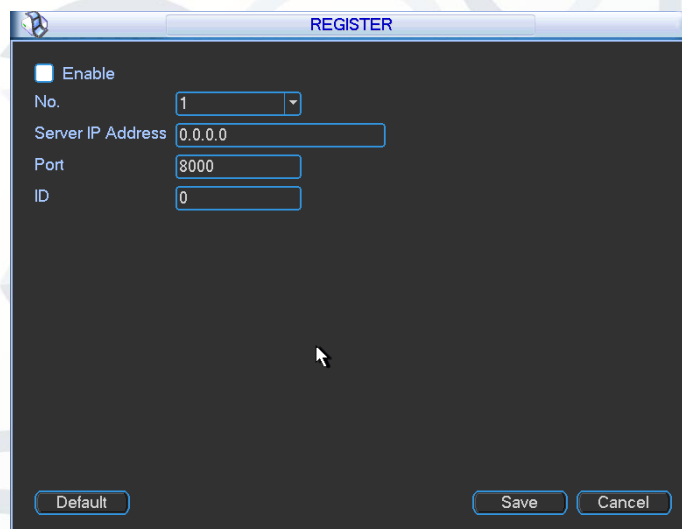

Figure 5-52
1. Please set the proxy server address, port, and sub-device name at the device-end. Also enable the auto register function, the device is able to auto register to the proxy server. The setup interface is shown in Figure 5-52.
3. Now you can add the device. Please do not input default port number such as the TCP port in the mapping port number. The device ID here shall be the same as the ID you input in Figure 5-52. Click Add button to complete the setup.